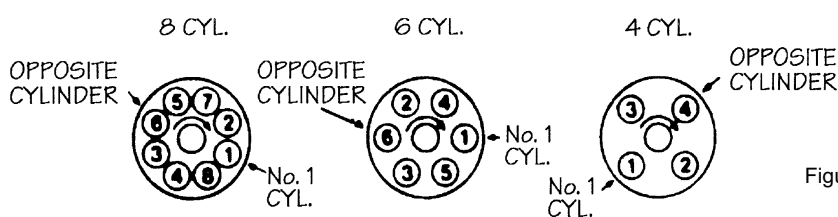

Figure 6
- 4.7.1 Connect the timing light to the wire directly opposite (180°) 1 cylinder on the distributor cap (see figure 6).